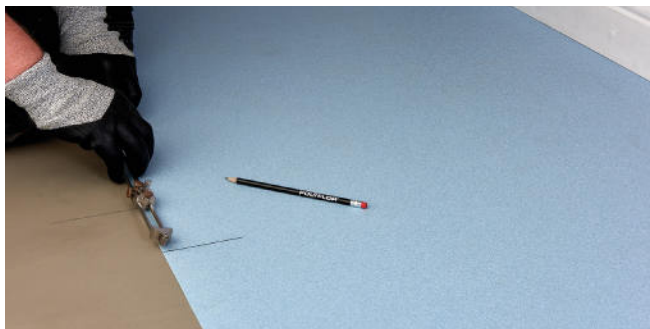

Figure 4 Setting the scribe
- > Set the scribes to the distance now between lines C and D (Fig 4). Trace the end wall profile and cut to fit as described earlier.